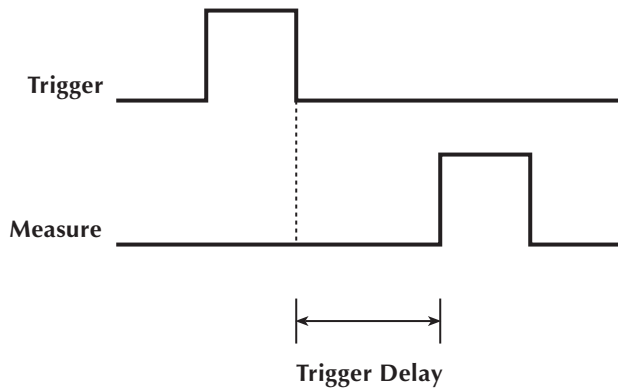

Figure 4. Trigger Delay
**Trigger Delay**—In a multiple channel test system, a relay is used to make the connection to various signals. Relays normally have bounce or settle times of several milliseconds. Starting the A/D conversion before the signal is settled could result in a noisy measurement. The trigger delay is the period from when a trigger is received to the time the meter starts the A/D conversion (*Figure 4*). This delay is generally used to allow the input signal to settle before starting the A/D conversion. Keithley’s Series 2000 meters have settable trigger delays, which, if applied carefully, can help optimize measurement integrity and speed.